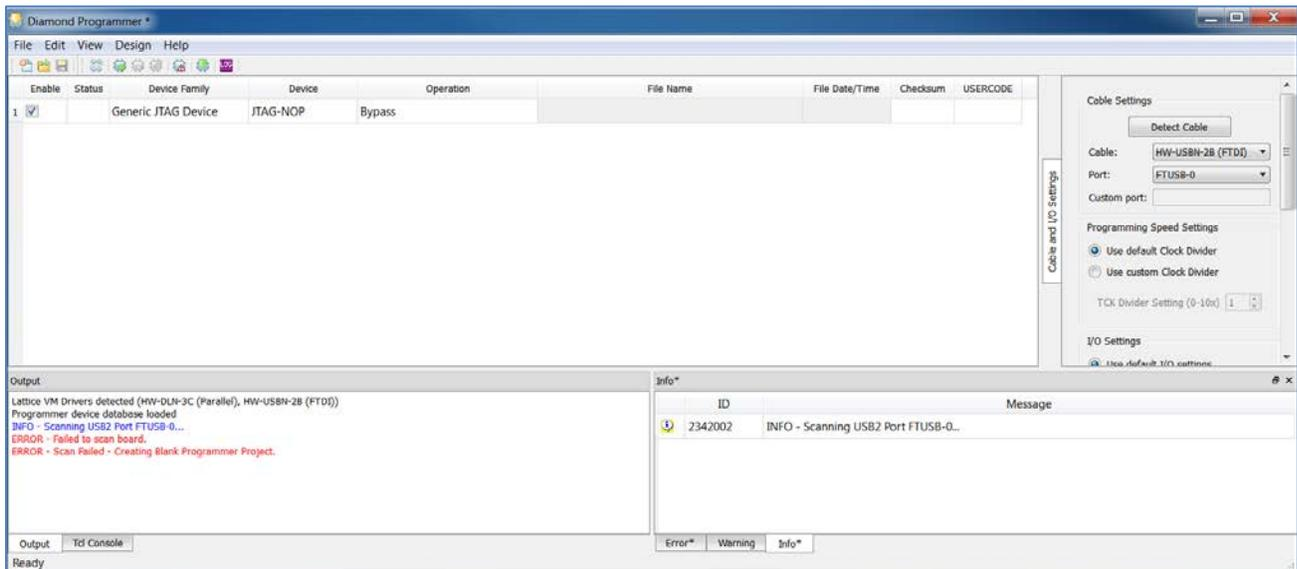

**Figure 5.22. ASC Socket – Programming Completed**
- When the programming of the device is completed, the **Status** option changes to *PASS* and *Operation Successful* message appears in the **Output** console as shown in Figure 5.22. During the programming activity the MXO2\_SDA and MXO2\_SCL LED light are blinking on the board showing communication between the XO2 and ASC device. *Done* is not a dedicated output in the MachXO2 family. *Done* LED indication is not supported.